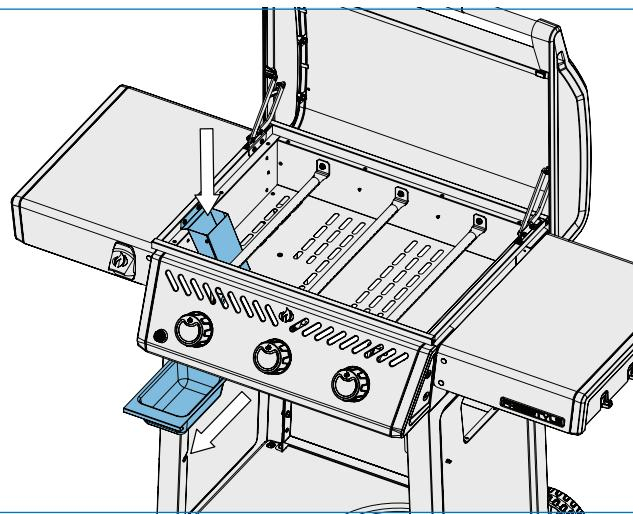

Fig. 11
1. Once the appliance has cooled completely, carefully remove the drip tray straight out from the appliance cart without tilting. (Fig. 11).